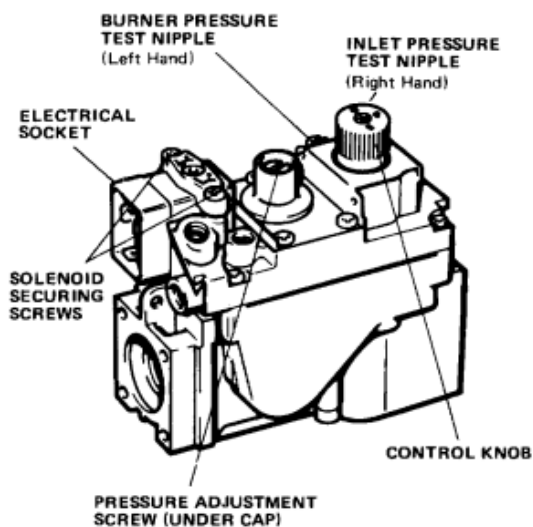

FIG.10
1. Fit a pressure gauge to the pressure test nipple at the outlet side of the gas valve (see Fig.10).
The pilot flame should heat the thermocouple so that the pilot safety device is "held in" but must not cause the thermocouple to glow bright red. Fig.10 shows the approximate pilot sizes for each appliance. The E.M.F. generated by the thermocouple should be of the order of 18 — 32 mV open circuit, 10 — 15 mV closed circuit. Drop out should occur between 2 — 4 mV closed circuit.
A. Fit a pressure gauge to the pressure test nipple at the outlet side of the gas valve (see Fig.10).